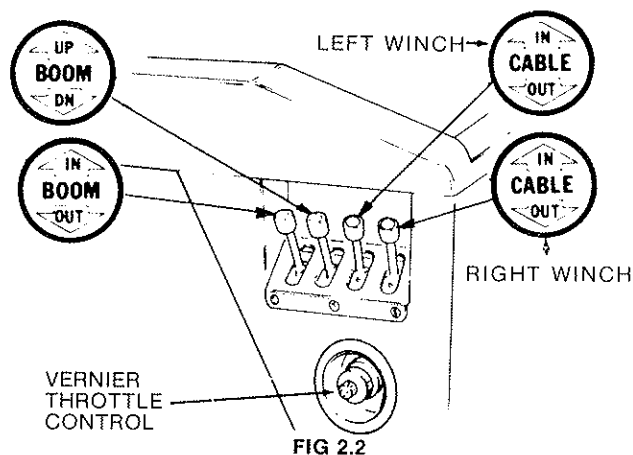

FIG. 2.2
2.2 Each function of your CENTURY Wrecker can be controlled from either of the dual control stations located at the rear of the wrecker. (FIG. 2.2)
2.3 The vernier throttle control located at the left rear control station is used to vary the speed of the truck engine to govern the maximum speed of the winches and cylinders. (FIG. 2.2)